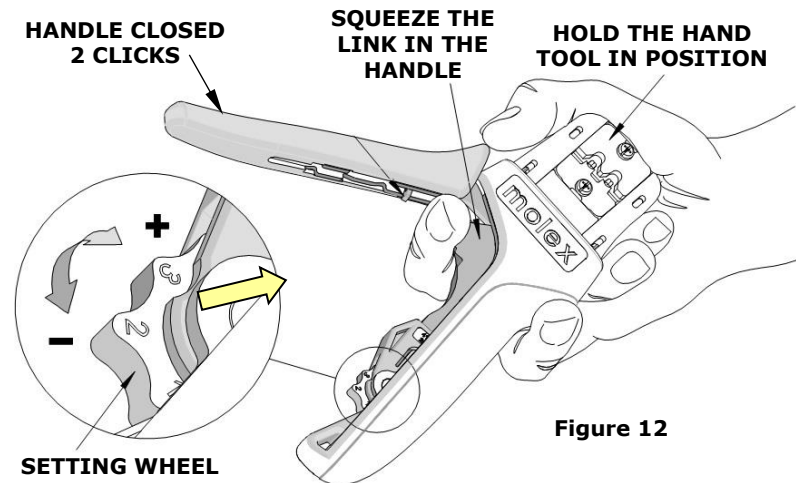

Figure 12
## How to Adjust Tool Preload (See Figure 12)
3. Hold the hand tool in the palm of your hand as shown in Figure 12. Using your index finger, squeeze the link toward the top of the hand tool frame. This will release the preload adjustment wheel.
4. Rotate the setting wheel counterclockwise (CCW) to increase handle force. The numbers will display higher. To decrease handle force, rotate the setting wheel clockwise (CW).